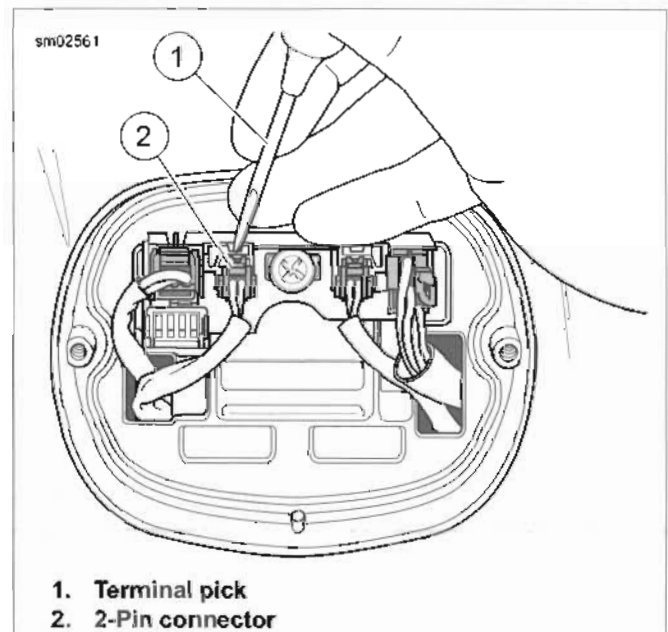

Figure 7-36. Removing 2-Pin Connectors
- See Figure 7-36. Using a FLAT BLADE L-HOOK (Part No. HD-41475-100), press locking tabs and remove two 2-Pin turn signal connectors and 6-Pin Power In connector from circuit board.